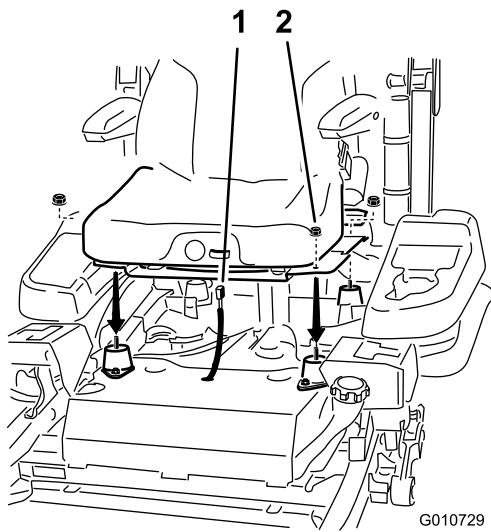

Figure 9
- 3. Position the new seat into the seat mounting frame (Figure 9).
- 6. Install the seat to the machine frame with 4 flange nuts (3/8 inch) (Figure 9).